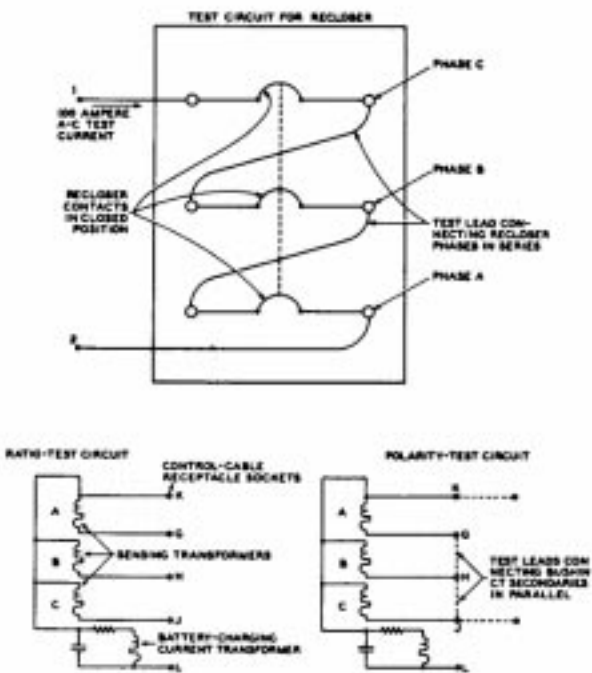

Figure 32
- c. Remove ohmmeter probes from terminals F and A. Connect positive lead of the battery (or 25-volt station d-c source) to socket F. Momentarily connect the negative lead to socket E. Rotary solenoid should operate producing an easily distinguished sound. Repeat two or three times. Connect ohm meter across source-side B and C phases; see figure 32 for identification of phases. The ohmmeter should show closing coil continuity (effective d-c resistance of coil when rotary solenoid is energized.) Disconnect d-c source.
The sensing transformers and battery-charging transformer can be tested using the circuits shown in figure 32. An a-c ammeter possessing a 0 to 500 milliampere range is required.
Assemble the test circuit as shown in the top drawing of figure 32. Connect the phases in series and close the recloser contacts with the KA90R closing tool as described on page 6. Connect a 1000-ampere a-c test-current supply to points 1 and 2.
1. Connect sockets G, H, and J of the control-cable receptacle in series with jumper leads as indicated in figure 32. The jumper leads connect the secondaries of the current transformers in parallel so that total output current, measured at points K and J, should be 300 ma.